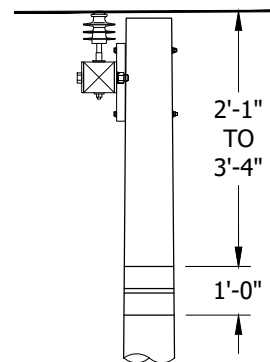

FIGURE 2
- B. **IN LIEU OF THE CROSSARM**, ON POLES SUPPORTING HIGH VOLTAGE EQUIPMENT (E.G. TRANSFORMER, CAPACITOR, ETC.), A "HIGH VOLTAGE" SIGN **MAY** BE ATTACHED SO THAT IT APPROXIMATELY ENCIRCLES THE POLE, IS ABOVE ALL COMMUNICATION AND SUPPLY LINE CONDUCTORS ENERGIZED AT 0-750V, AND IS LOCATED NO MORE THAN SIX INCHES BELOW THE EQUIPMENT (SEE FIGURE 2).